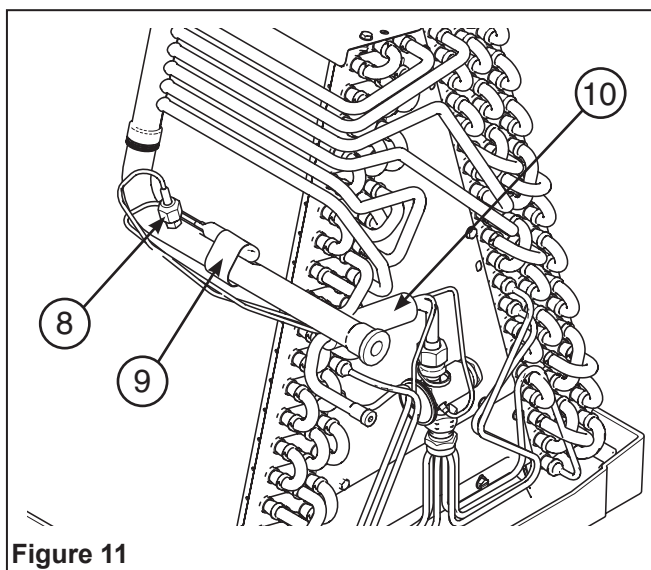

Figure 11
8. Connect the TXV equalizer line to the equalizer fitting (Figure 11). Hand-tighten until flare bottoms. Use a back-up wrench to tighten securely.
10. To prevent leaks due to corrosion from copper-aluminum interaction, loosely wrap the bulb line and equalizer line and 3/8" liquid line together with provided insulation where they cross the aluminum slab or aluminum tubing inside the cabinet (Figure 11). Make sure that installed insulation prevents any copper from touching aluminum.